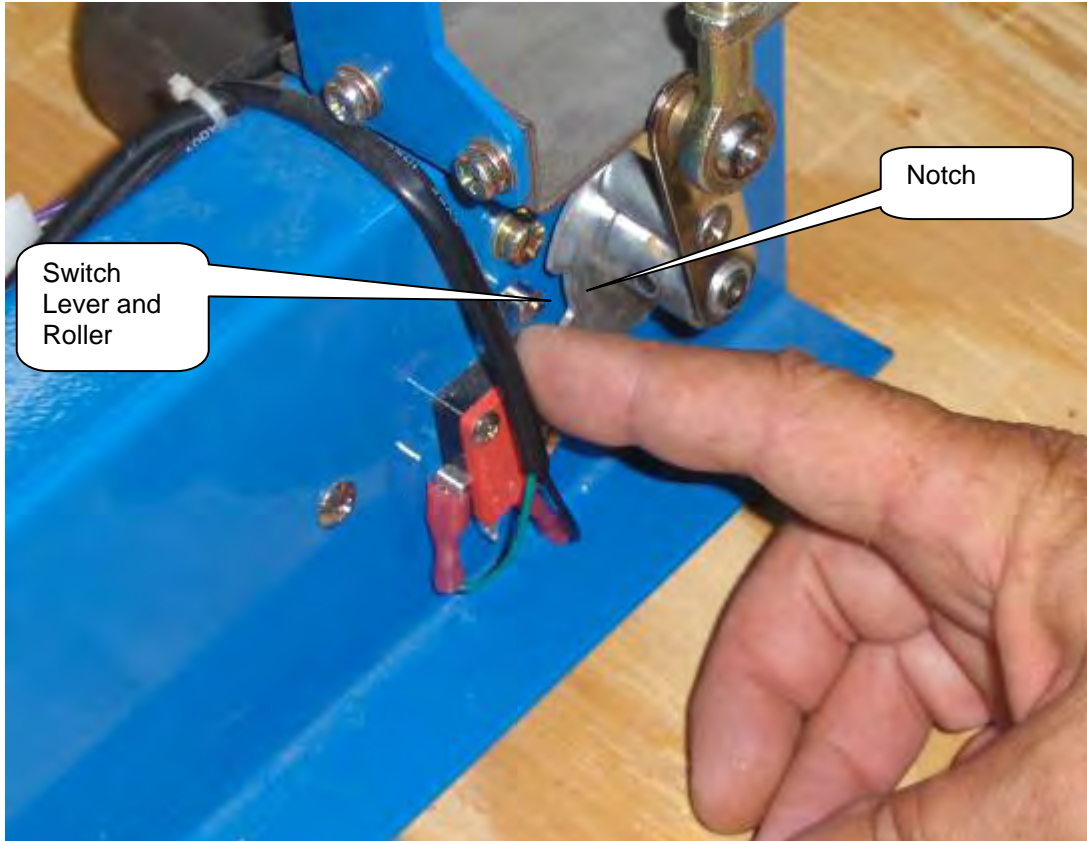

Fig. 2: Typical Shark Position Micro Switch Sensor for Position 5
- 2) If the motor is turning, then it's either the Micro Switch (See Fig. 2), an open or shorted terminal or wiring, or the Micro Switch lever is damaged or not adjusted correctly to sense the cam notch.
9. Replace failed switch as seen in Fig. 2 or whichever switch has the failure.